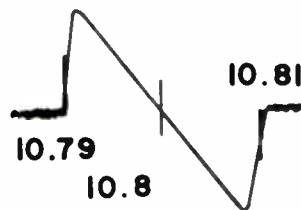

Figure 3
6. Adjust T5 so that 10.80 MHz is in center of discriminator curve and for best linearity. See Figure 3.